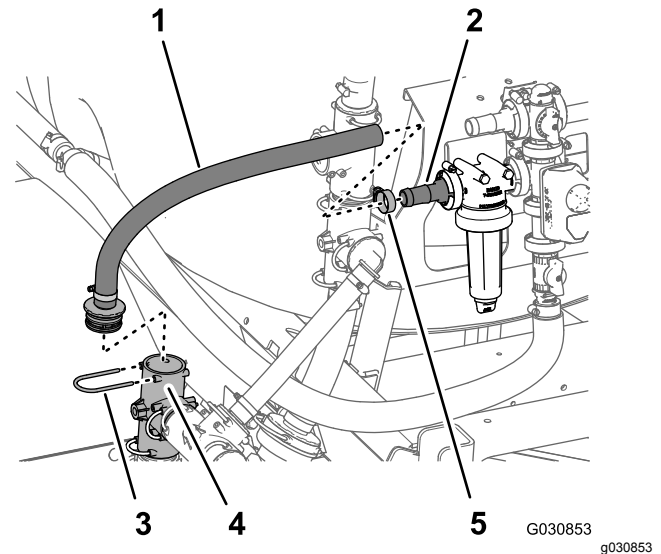

Figure 104
1. Assemble the hub of the straight-barbed fitting at the end of the supply hose (1 x 23-1/8 inches) into the T-fitting at the outlet port for the sprayer pump (Figure 104) with the retainer that you removed in step 3 of Removing the Agitation Valve, Ball Valve, and Hoses (page 32).
straight-barbed fitting in the filter head (Figure 104).